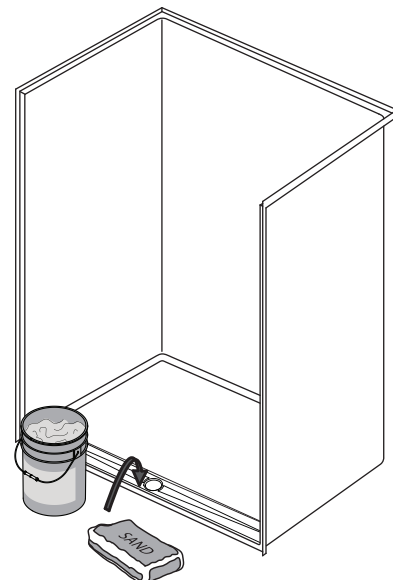

Figure 9
- 15 Place a weight (a bucket of water or sand) over the area to ensure the epoxy will be effective. (Figure 9)